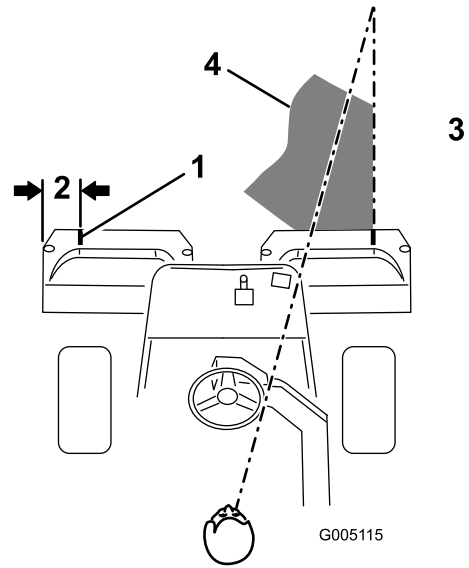
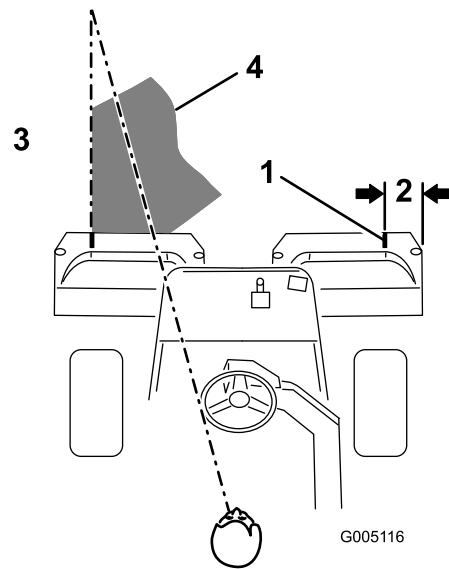

Figure 29
Figure 30
2. Either place a strip of white tape or paint a line onto each basket paralleling the outer edge of each basket (Figure 29).
Note: To assist in maintaining a straight line across the green and keep the machine an equal distance from the edge of the previous cut, establish an imaginary sight line approximately 1.8 to 3 m (6 to 10 ft) ahead of the machine to the edge of the uncut portion of the green (Figure 29 and Figure 30). Some find it useful to include the outer edge of the steering wheel as part of the sight line; i.e. keep the steering wheel edge aligned with a point that is always kept the same distance away from the front of the machine.